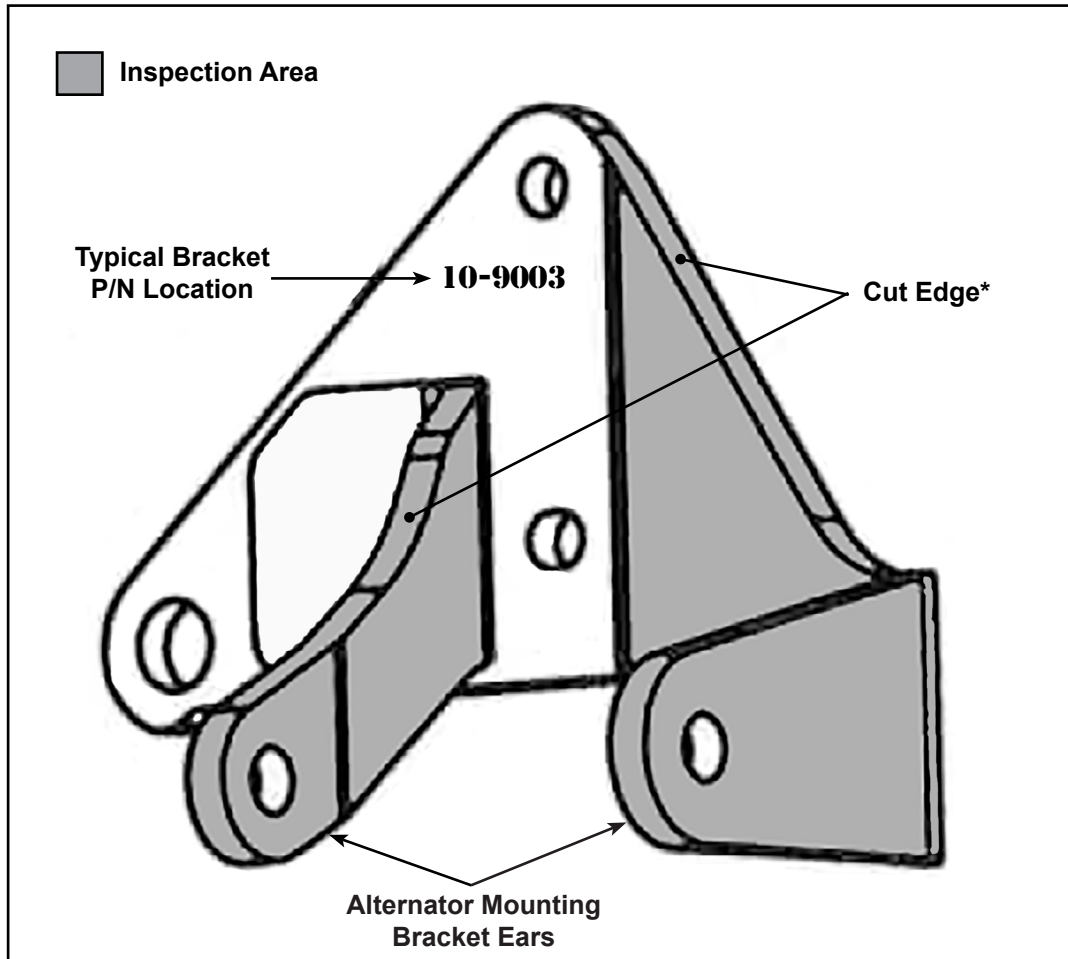

Figure 1 - Alternator Mounting Bracket Inspection Area
** See Fig. 1 for bracket P/N 10-9003 location
- (1) If previous compliance cannot be verified through aircraft or engine maintenance records, use the same references to determine if an affected alternator has been installed. Refer to section 1.A, Effectivity.
- (2) If effectivity of the alternator cannot be established using aircraft or engine maintenance records, utilize the applicable aircraft engine maintenance manual to gain access to the alternator and inspect the alternator and alternator mounting bracket against criteria found in section 1.A of this SB.
- (a) If the alternator **is** affected per section 1.A and alternator mounting bracket P/N 10-9003 is installed (Fig. 1), inspect the alternator mounting bracket ears for stress cracks. See Fig. 1, Inspection Area.